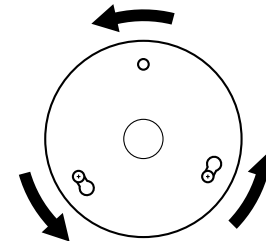

Figure 10b - Mounting the Upper Switch Housing
4. Turn the upper switch housing counterclockwise until the housing assembly screws are firmly situated in the narrow end of the keyhole slots as shown in Figure 10b. Install the one remaining #6-32 x 3/8" housing assembly screw into the third hole in the upper switch housing. Tighten all three screws firmly.